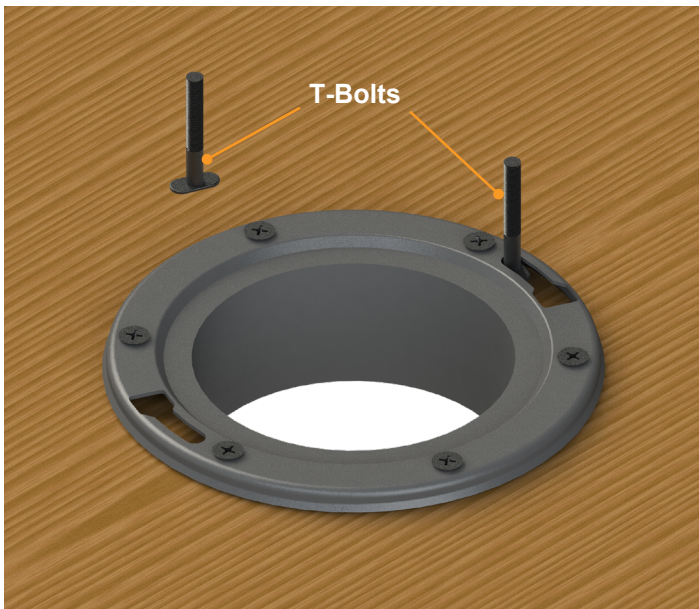

Fig.2
1. Insert the new floor mounting T-bolts into the slots in the floor flange (Fig. 2).